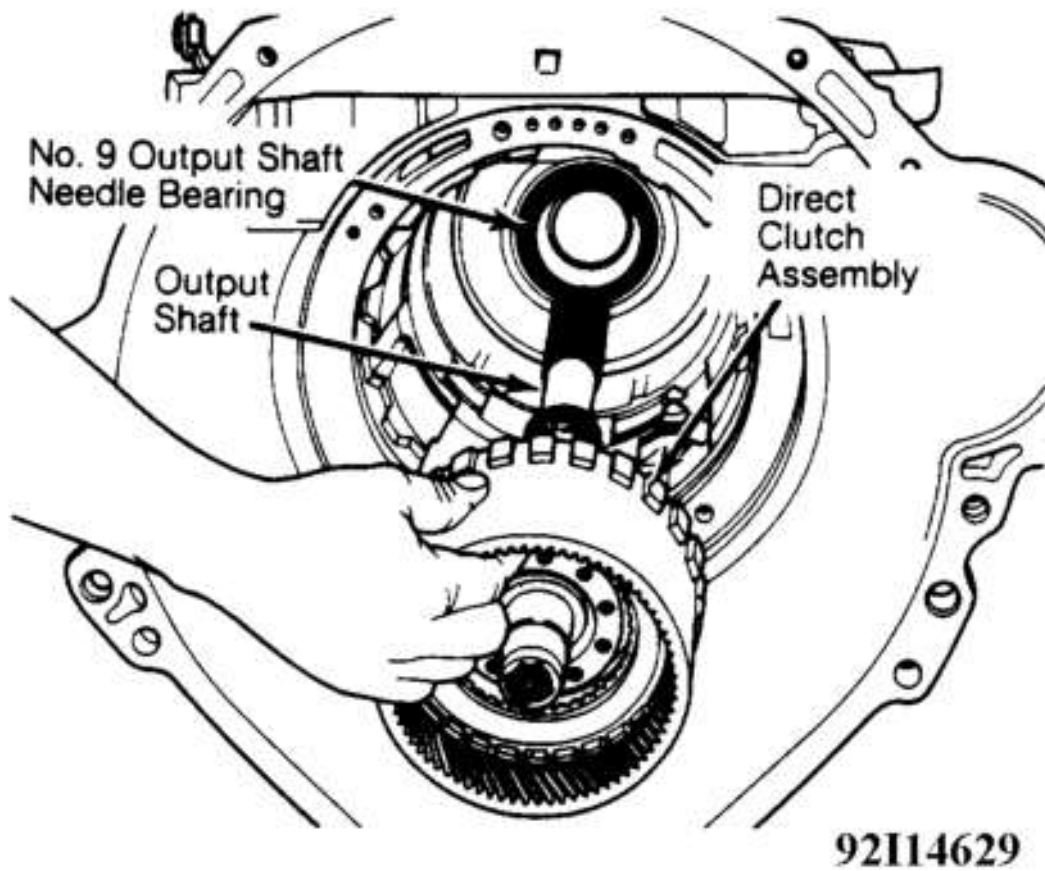

Fig. 46: Installing Direct Clutch Assembly
2. Place No. 8 needle bearing on rear of direct clutch drum. Slide output shaft into direct clutch drum. Attach output shaft hub to ring gear with retaining ring. Install output shaft, ring gear, and direct clutch assembly into transmission case. See Fig. 46 .